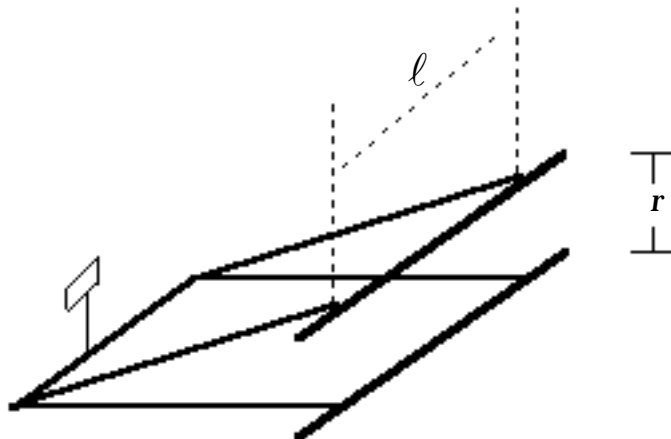

Figure 1. Schematic of the current balance.
1. Examine the apparatus and see that it consists of a *balance*, which is movable, supported above a fixed *base* by means of *knife edges* which rest on *flats* so that the balance pivots on the knife edges. Fig. 1 is a schematic of the apparatus.